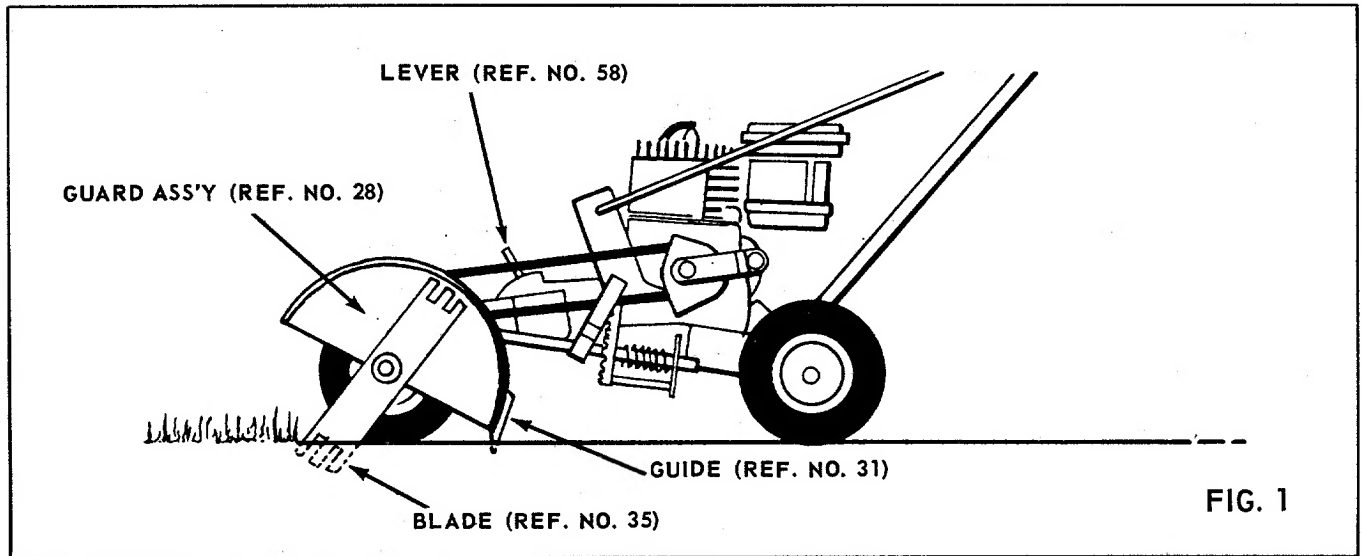

FIG. 1
3. Be sure the guide (ref. no. 31) which is mounted on the guard ass'y. (ref. no. 28) follows in the fresh cut of the blade. (See position of guard fig. 1).